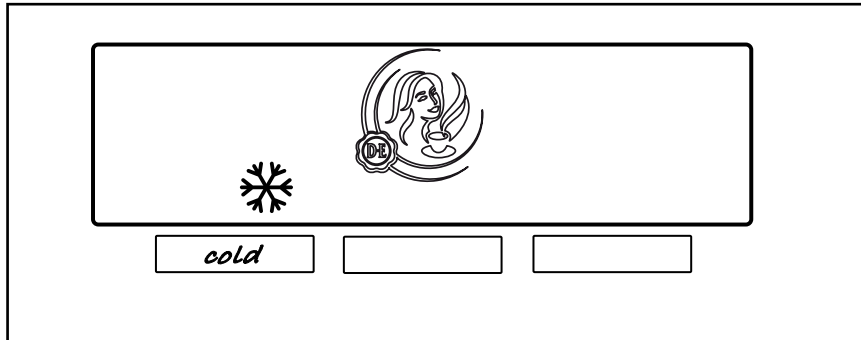

Fig. 28
2. Press the preselection button «COLD ❄️» to activate this preselection. The icon for cold delivery is displayed (fig. 28).